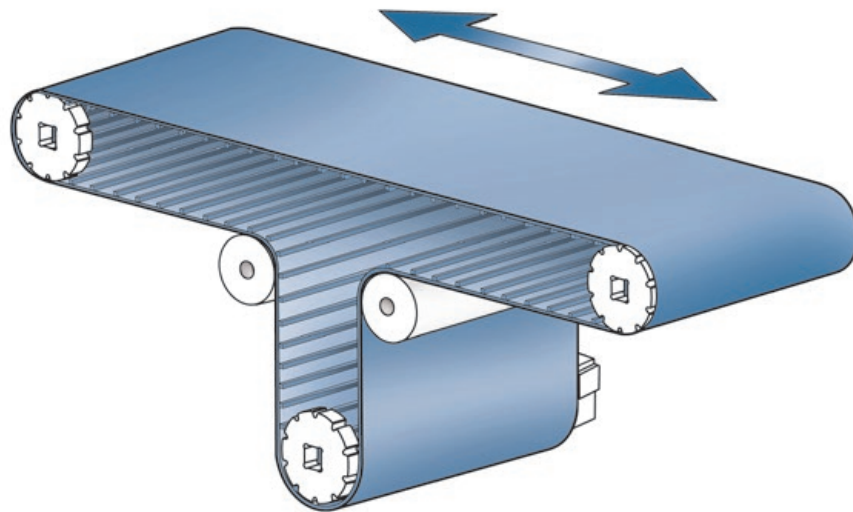

Figure 3
- The drive sprockets in this configuration are not placed at the conveyor ends but within the conveyor span length. See Figure 3. It is used typically for bi-directional conveyors.